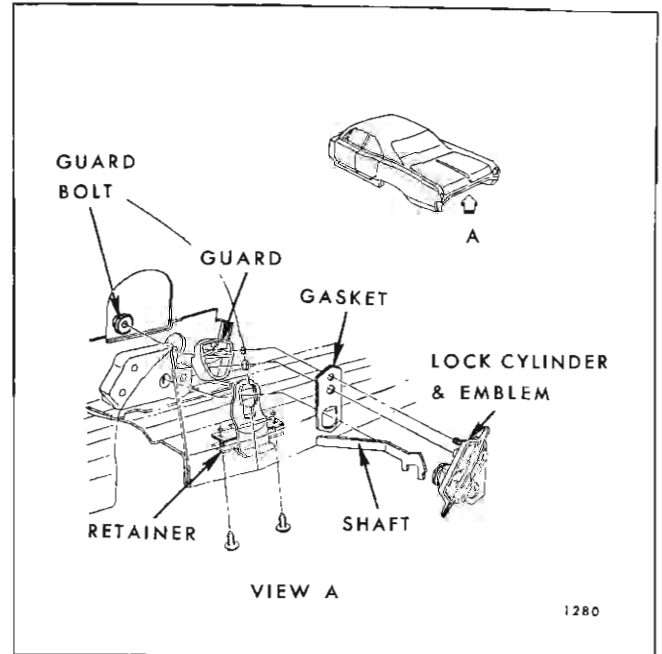

Fig. 1F11—Rear Compartment Lid Lock Cylinder and Emblem Assembly
1. Raise rear compartment lid and remove nut securing guard to emblem (see Fig. 1F11).
2. Remove screws (2) securing retainer to rear compartment lid and disengage retainer from lock cylinder and emblem assembly and remove unit (see Fig. 1F11).